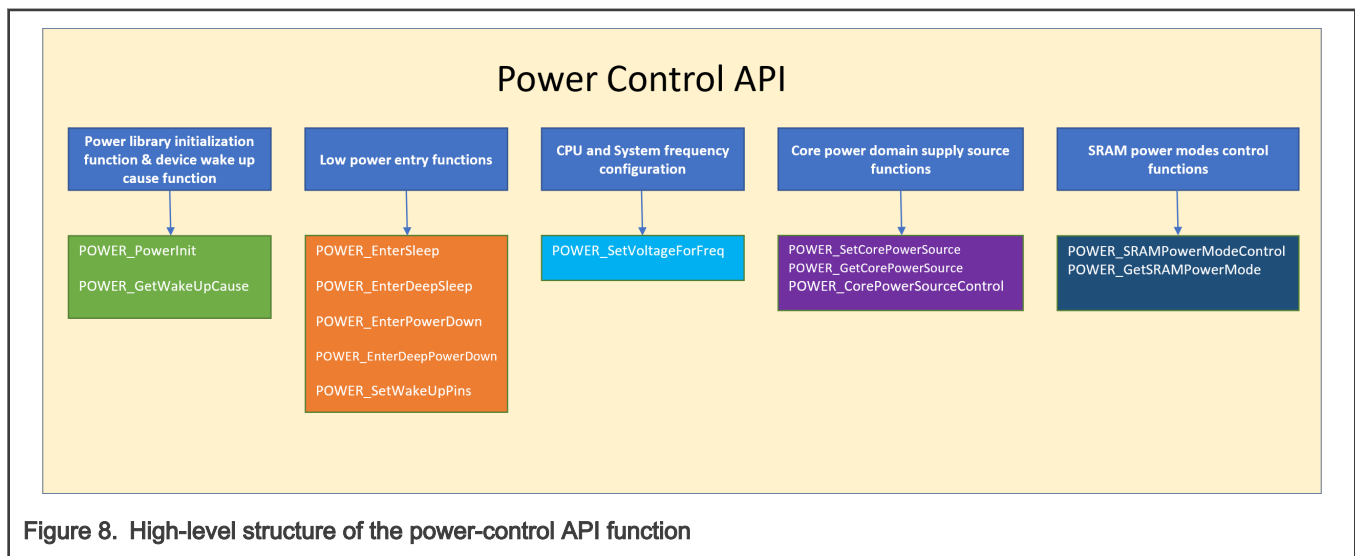

Figure 8. High-level structure of the power-control API function
- Figure 8 shows the high-level structure of the power-control API function.